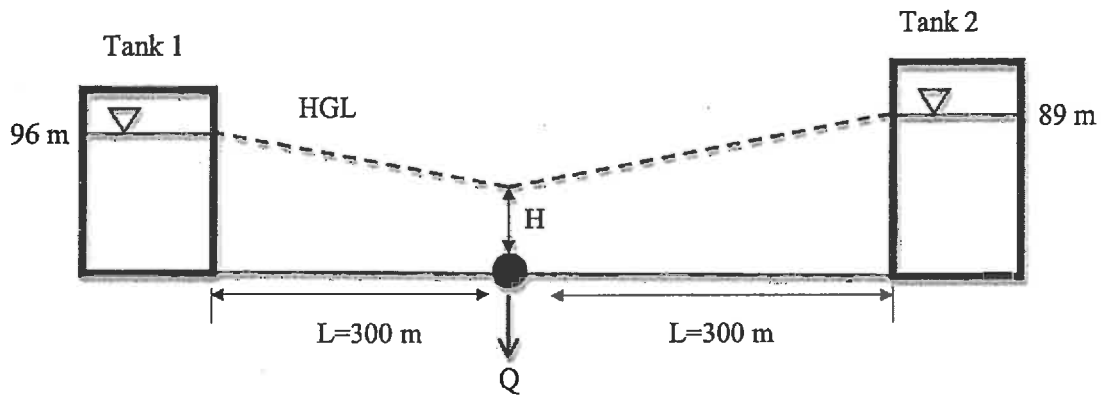

Figure 2. Water supply system.
4. Two elevated tanks supply water to a demand node with a valve at its outlet (Figure 2). The elevated tanks are cylindrical and have diameters of 5 m. The initial water level in Tank 1 is 96 m and the initial water level in Tank 2 is 89 m. The valve is half open and has a discharge coefficient of $0.13 \text{ m}^{5/2}/\text{s}$. The initial steady-state flow through the valve is 400 L/s. The valve discharges to the atmosphere. Both pipes have a Hazen-Williams 'C' factor of 110, an internal diameter of 250 mm, and a length of 300 m. Assuming quasi-steady conditions in the system, determine the pressure head at the demand node and the flow in the pipes in the first three time steps of the simulation. Use a time step of 10 seconds to carry out the quasi-steady state simulation.